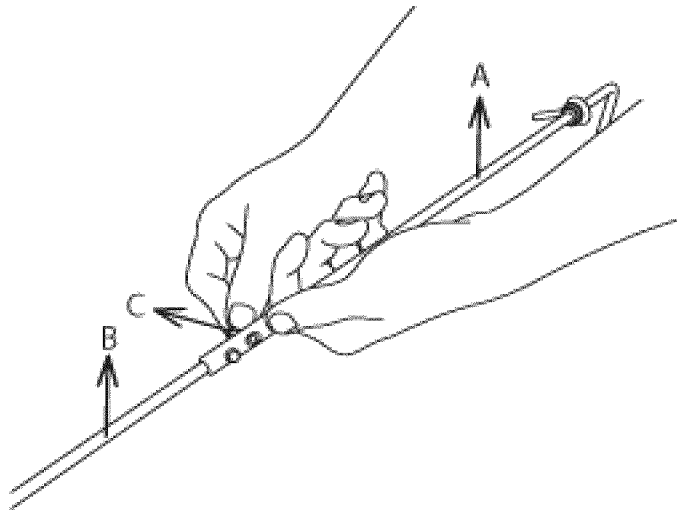

Figure 14
- Slide the upper chute crank into the lower chute crank, aligning the screw holes. Tighten the screw into the aligned holes using a screwdriver. Fasten the nut with wrench (Figs. 14 and 15).